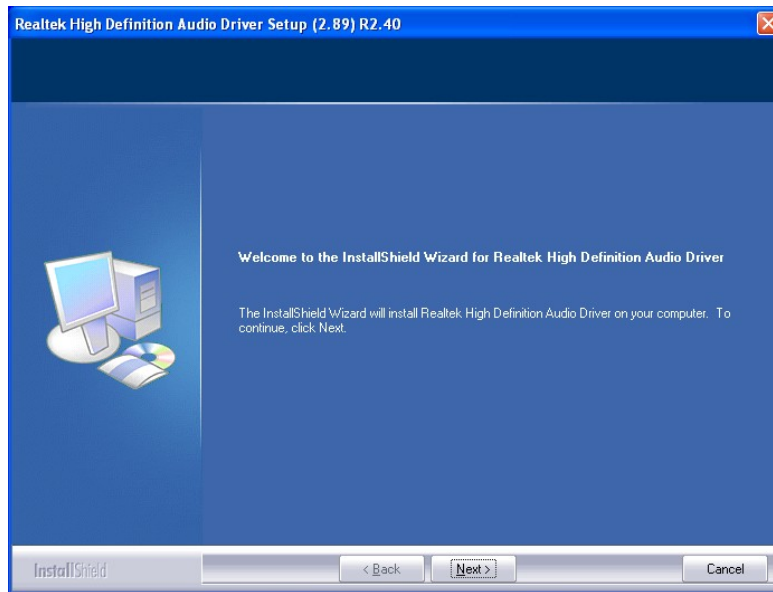

Figure 6-18: Audio Driver Welcome Screen
Step 4: The **Audio Driver Welcome Screen** in **Figure 6-18** appears.